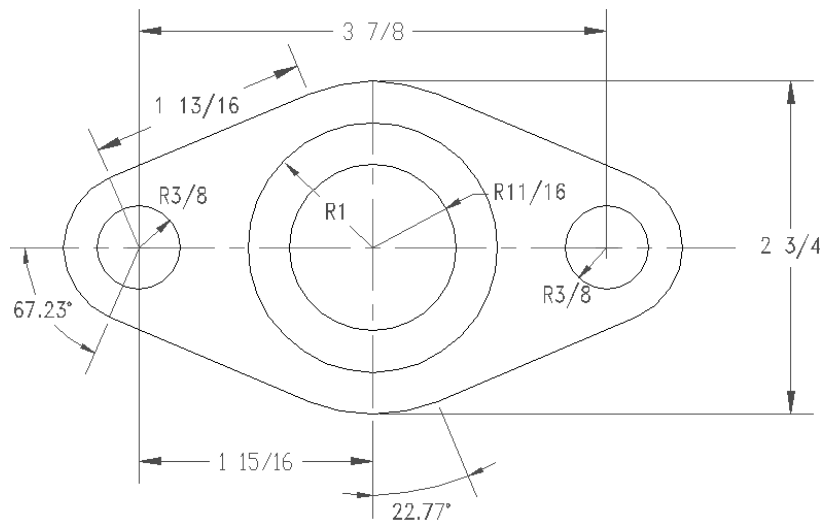

**Figure 7-5:** The dimensioned sealing plate for a valve.
2. Save the file as ab07-02.dwg in your AutoCAD Bible folder. ORTHO is on, and units are set to Fractional. Choose Tools ⇨ Drafting Settings (clicking the Object Snap tab, if necessary) and set running object snaps for intersection, center, and endpoint. Make sure OSNAP is on. In this exercise, you draw part of the sealing plate shown in Figure 7-5.